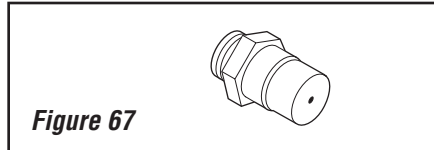

Figure 67
A. Remove the orifice from the manifold and replace it with the one provided in the kit. The following table shows the orifice sizes for natural and propane models. *Figure 67*, illustrates the orifice. Always check and verify correct orifice size.